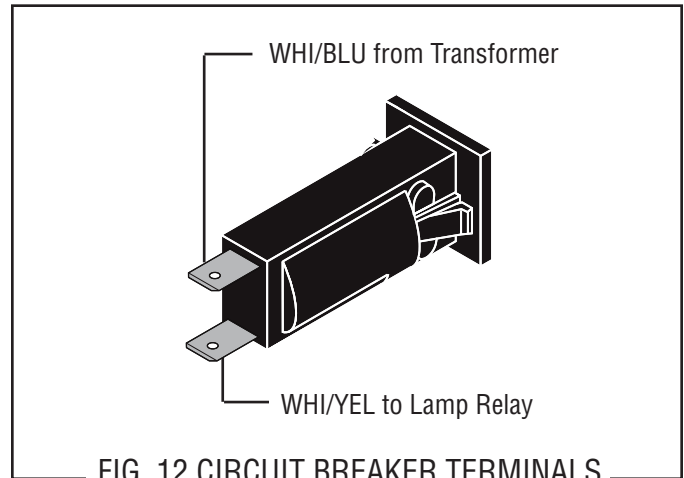

FIG. 12 CIRCUIT BREAKER TERMINALS
6. Refer to Fig. 12 when reconnecting the wires.